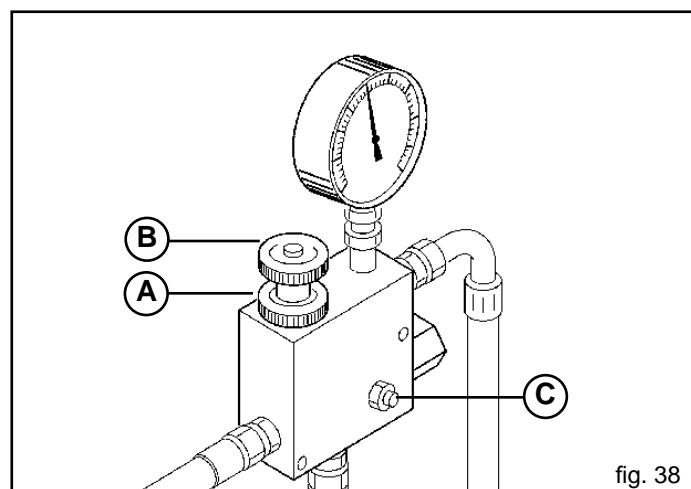

fig. 38
If you wish to increase the number of revolutions of the fan for distributing heavier seeds, carefully proceed as follows (Fig. 38):
- loosen the handwheel (A, Fig. 38);
- rotate the handwheel (B, Fig. 38) clockwise or anticlockwise to reduce or increase pressure and adjust the number of revolutions of the blower accordingly.
It is strictly forbidden to touch act on the dowel (C, Fig. 38) for any reason, as this would upset the system and could lead to the motor, the pump or the fan.